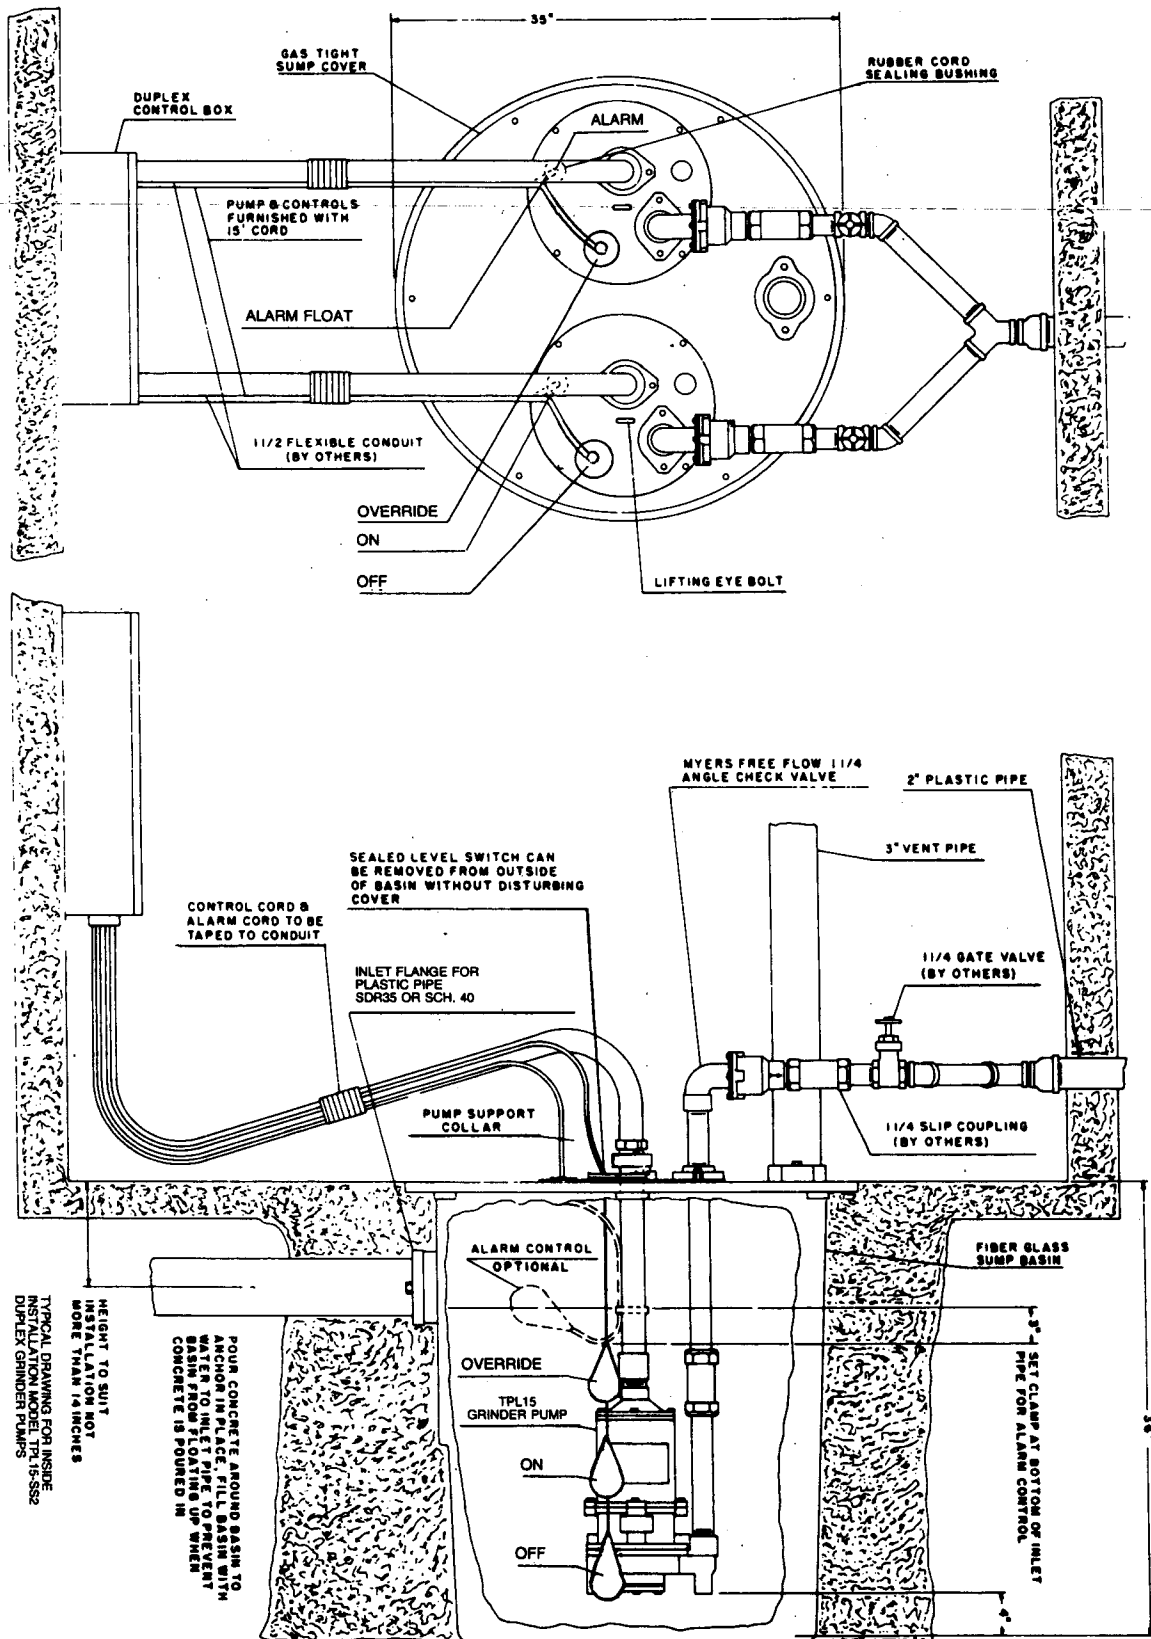

FIG. 2
Figure 2 shows a typical installation including discharge piping.
3. Basin is now ready to set in ground. Pour cement around basin and up to basin flange to make a neat job and to anchor basin in the ground. See Figure 2.
8. The motor cords can be installed in flexible conduit if desired, as shown on drawing Figure 2, or can be taped together for running to control box.